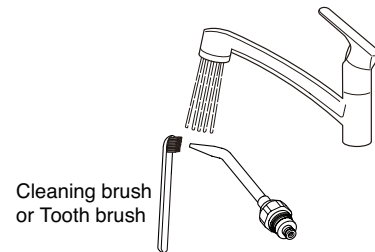

Fig.5-10 Cleaning Belmont 77 Syringe Nozzle
- A. Wipe off the surface contamination by a cloth while rinsing the surface by running clean warm water at 40±5 degrees. Scrub the tip and joint part of nozzle by a cleaning brush or by a tooth brush with running clean warm water at 40±5 degrees. (Fig.5-10)